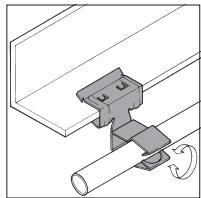

Fig. 2
- Fig. 2 supports 25 lb static load limit
- Fig. 2 supports 15 lb static load limit